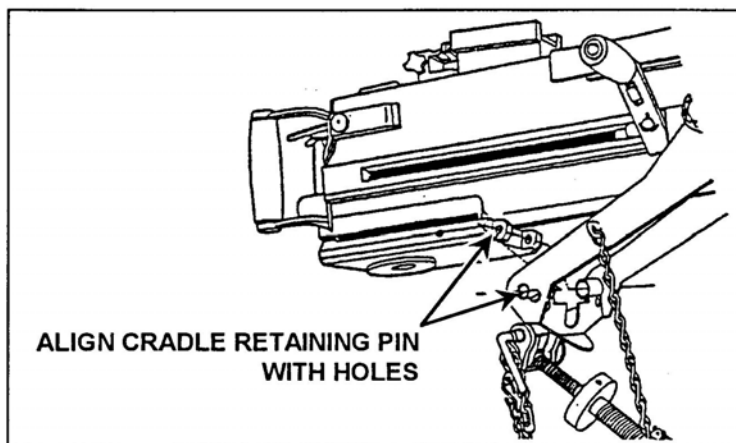

Figure 8. Aligning Rear Cradle Pin Holes
- b. Align the rear mounting holes of the gun with the rear holes of the gun mount (Figures 8 and 9). Insert the gun mount pin from the right side and rotate it downward to locked position.